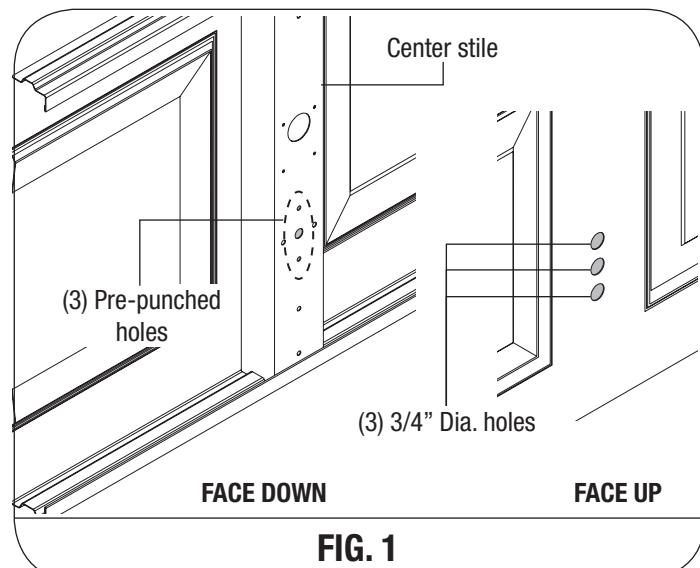

FIG. 1
8000/8100/8200 DOORS, (SEE FIG. 1): Place the lock section face down on (2) padded sawhorses for a single car door or (3) padded sawhorses for a double car door. Locate the (3) hole pattern in the center stile of the lock section. Use the (3) holes as a template to drill (3) $1/8$ " diameter holes through the section. Flip the section over, face up. With the section face up, enlarge all (3) holes to $3/4$ " diameter, pay close attention not to drill complete through section into center stile.